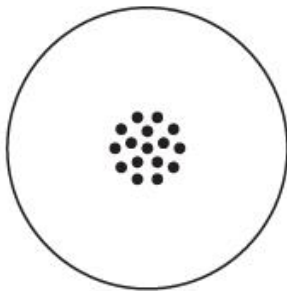
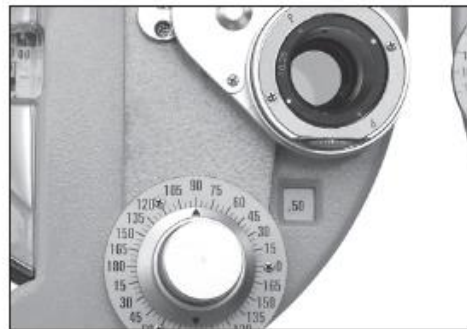
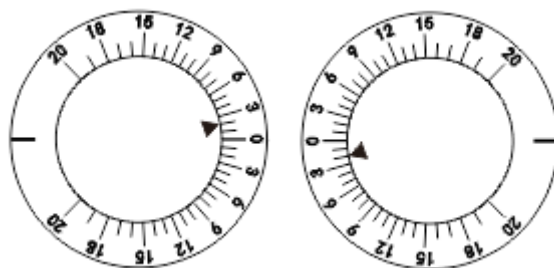

Fig.34
Fig.35
Fig.41
- (2) Project the cross cylinder dot chart as shown in Fig.34. Turn rotation knob ①⑨ with finger to rotate cross cylindrical lens ②①. Then ask Testee to compare the two images he sees before and after turning the cross cylindrical lens. Stop at the better side. For example, if what Testee sees is clearest as shown in Fig.35 of cross cylindrical lens, turn cylindrical lens axis knob ②⑥ to move axis of cross cylindrical lens by 5° in direction of red dot, so that position of cylindrical lens axis scale ②⑧ is positioned at 95° .
(6) Use cross cylinder dot chart shown in Fig.34 with same procedure as described in (2). Now ask Testee to compare the charts he sees. The result is shown as Fig.38. If Testee sees the clearest chart when red dot matches with letter P (as shown in Fig.38), it means Testee's diopter has increased by 0.25D (now Testee's diopter power is 0.75D).
(1) Rotary Prism Method
a. Tests are performed for left and right eyes independently, in which, binocular prism shall be used for both eyes. On the whole, these tests are referred to as the binocular balance test. Set both eyes to O. Use the chart shown in Fig.34 and set prisms as $2\Delta U$ (right eye), and $2\Delta D$ (left eye) (see Fig.41)